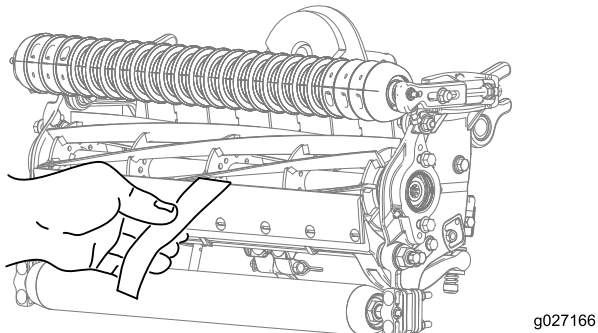

Figure 10
12. Test the cutting performance by inserting a long strip of Toro cutting performance paper between the reel and the bedknife, perpendicular to the bedknife (Figure 10). **Slowly** rotate the reel forward; it should cut the paper.